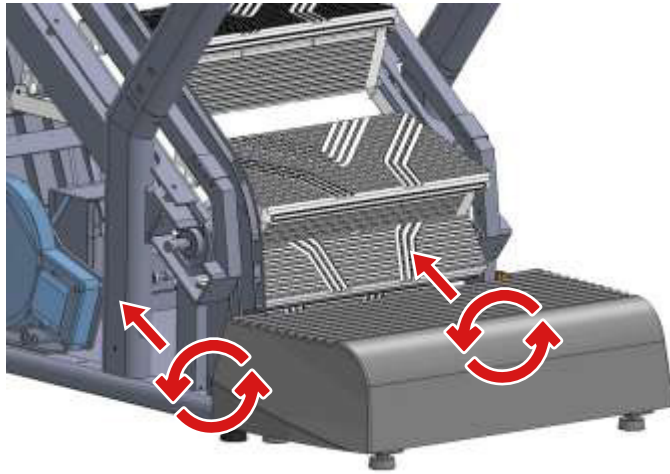

Figure 1
3. If the stairs shake too much during exercise, it means that the chain is too loose. Please remove the left and right protective cover of the main frame, and use a hexagonal T-type wrench to fix the screw of the rear gear clockwise to tighten the chain as shown in Figure 1.